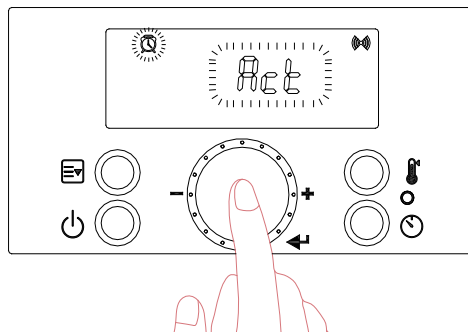

Figure 41 – Setting the Recirculation Timer Type
- b. Press the  button at the “Act” screen to select the Recirculation Timer type. See Figure 41. Turn the dial  to choose between “Auto” or “Pro9”.
**NOTE:** If “Auto” is selected, the water heater will monitor and record hot water usage patterns over a period of seven (7) days. After this learning period, the water heater will use the usage pattern to automatically cycle the pump and preheat the water.